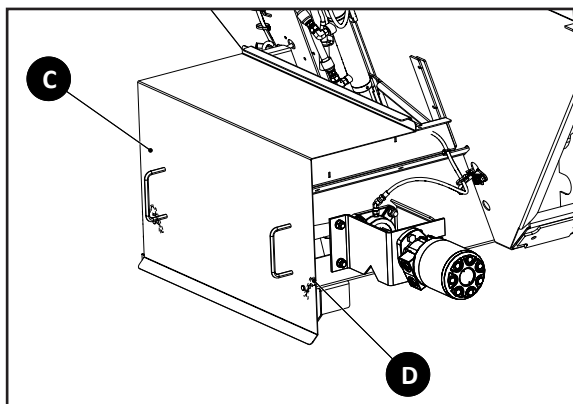

Figure 2 - Conveyor Cover
5. Figure 2 - Install Conveyor Cover (C) and secure with hair pins D) on each side.